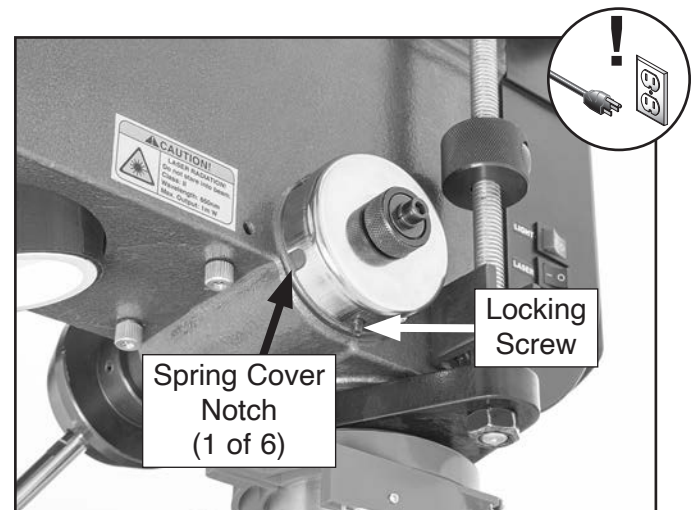

Figure 58. Location of spring cover notches and locking screw.
6. Engage next available spring cover notch with locking screw (see **Figure 58**) and hold spring cover tightly to side of headstock.